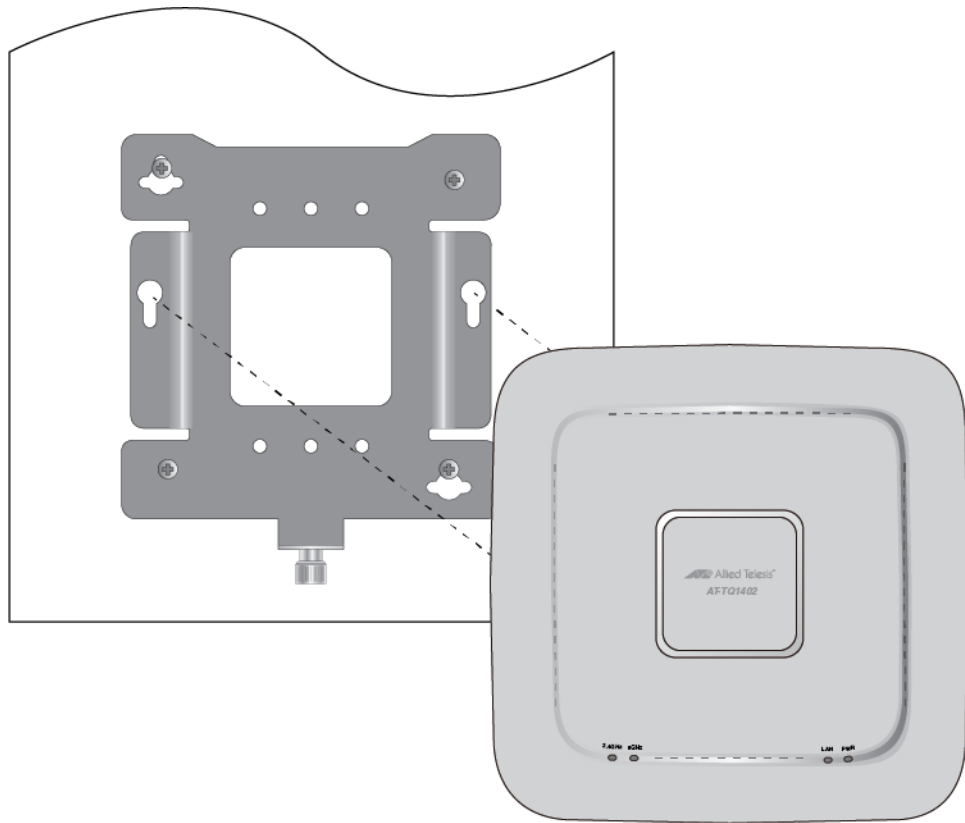

Figure 18. Installing the Access Point on the Mounting Bracket
1. Align the bottom of the access point over the bracket so that the two screws on the bottom of the device fit into the bracket keyholes. Refer to Figure 18. (These are the two access point chassis screws installed in “Pre-Fitting the Mounting Bracket on the Access Point” on page 39.)